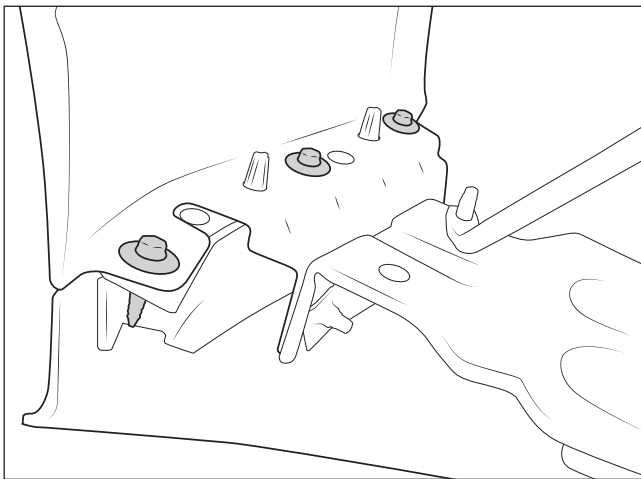

Figure 6
C. Install three 7mm hex screws (per side) into the filler panel under the fender (figure 6).